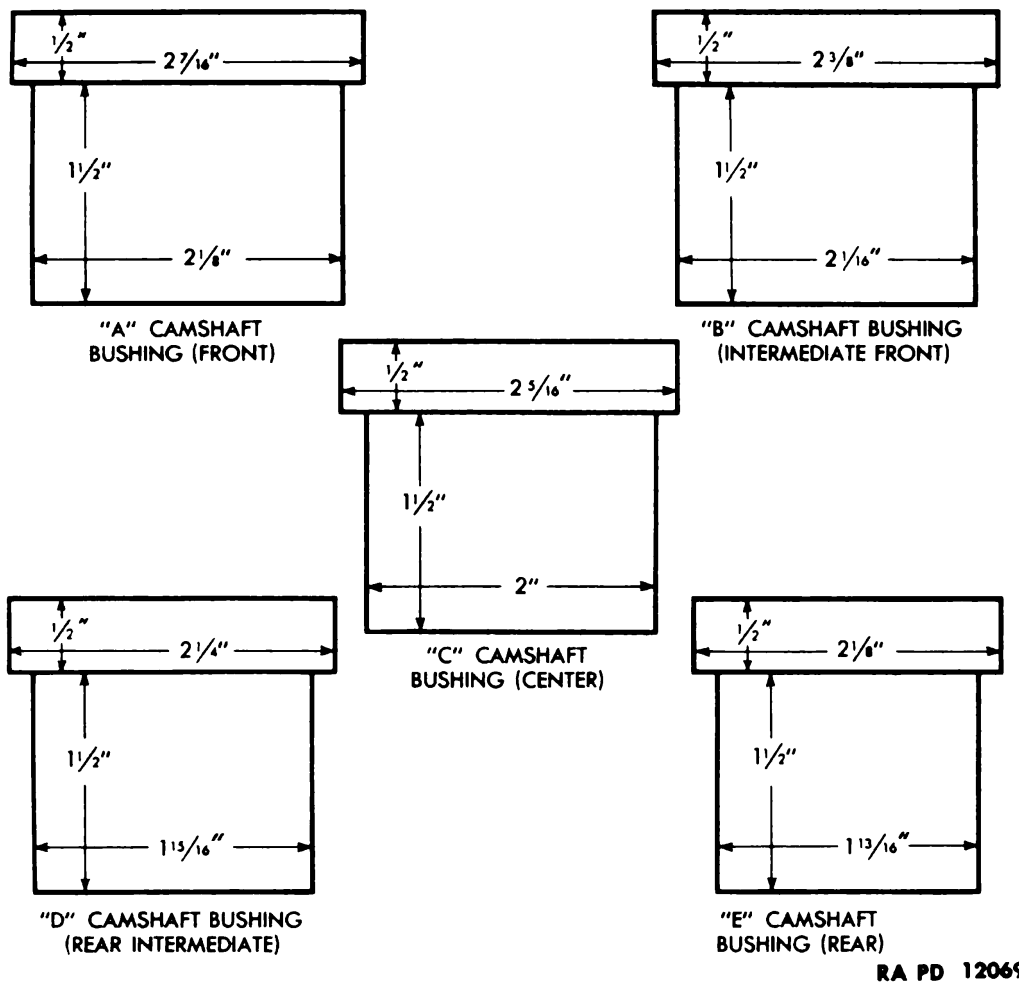

Figure 102—Dimensions of Pilots to Remove Camshaft Bushings (Cold Rolled Steel)
3. Place a pilot of proper size in bushing, for bushing to be removed. Refer to fig. 102 for proper size pilot needed for each camshaft bushing.
1. Place a pilot of proper size in bushing to be installed. Refer to fig. 102 for proper size pilot needed to install each camshaft bushing.